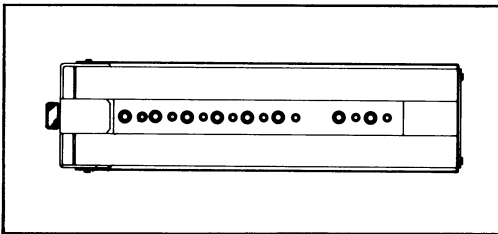

Fig. 6.1 Tripod adaptor bottom view
- As shown in Fig. 6.1, 3/8"-16UNC and 1/4"-20UNC screw holes are provided. Select the hole that provides optimum balance in accordance with the weight of the tripod and camera being used.
(2) Using the tripod adaptor